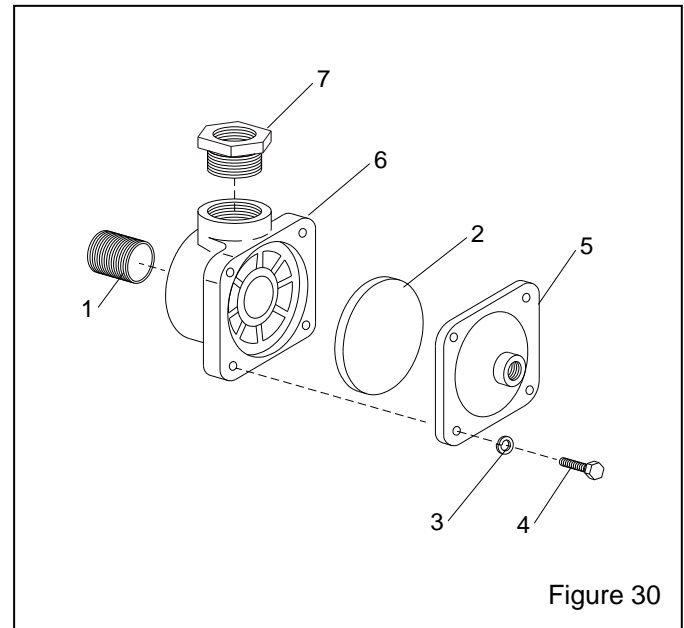

Figure 30
7.12 1" Diaphragm Outlet Valve, Figure 30